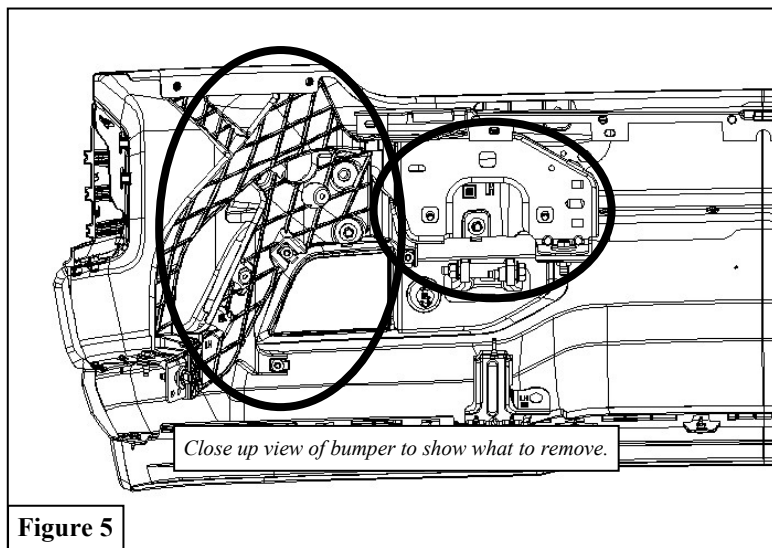

Figure 5
6. Once the bumper is removed, remove the bolts holding the plastic supports on the bumper in order to access the sensors and sensor wiring harness. Remove the sensors carefully and make sure to pay attention to the sensor orientation since they must be reinstalled in that orientation. See **Figure 5 & 6**.